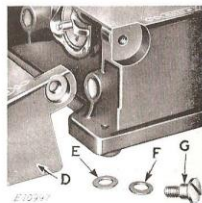

FIG. 19. SHOWING HINGED BED EXTENSION REMOVED
When it is desired to take off the hinged bed extension (D, Fig. 19), remove the two screws (G, Fig. 19) which attach the hinged extension to the machine bed.
Particular attention is called to the two washers with which each of the two screws (G) is provided. The black spring washer (F) should be placed with its convex side against the screw head, and the flat white washer (E) is next placed on the screw. When replacing the hinged bed extension, tighten the two screws (G, Fig. 19) so that the hinged extension will remain in a raised position when desired.